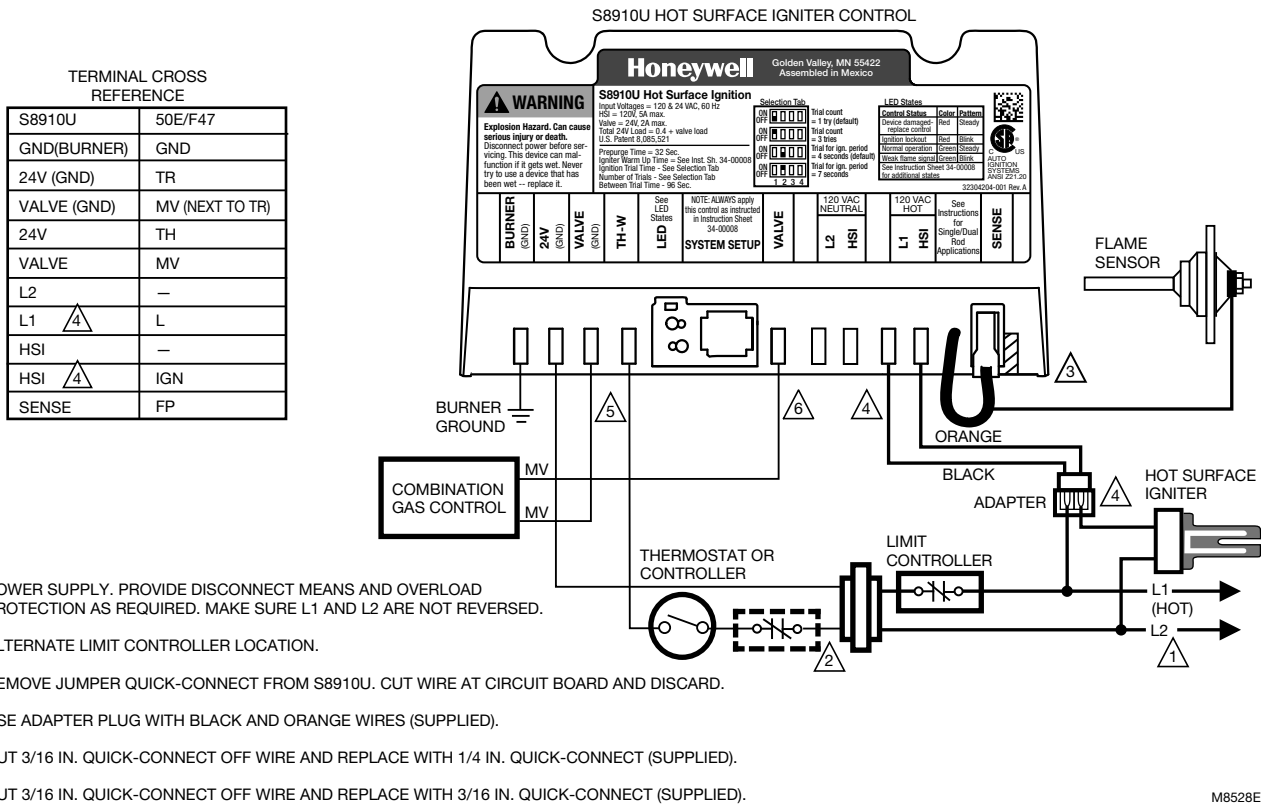

Fig. 2. Typical hookup when S8910U replaces White-Rodgers 50E/F47.
1. Connect the wires to the S8910U Ignition Module as shown in Table 5. Make sure that adequate system ground is provided as indicated in the wiring table. See Fig. 2 through 4. Where a change in quick-connect is required, cut off the original quick-connect, strip the lead-wire and firmly crimp in place the proper quick-connect supplied.
2. Verify the thermostat anticipator setting as explained in the preceding **IMPORTANT**, item 4.